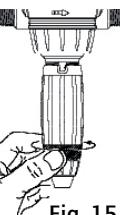

Fig. 15
- Tighten the blocking ring (Fig. 15).